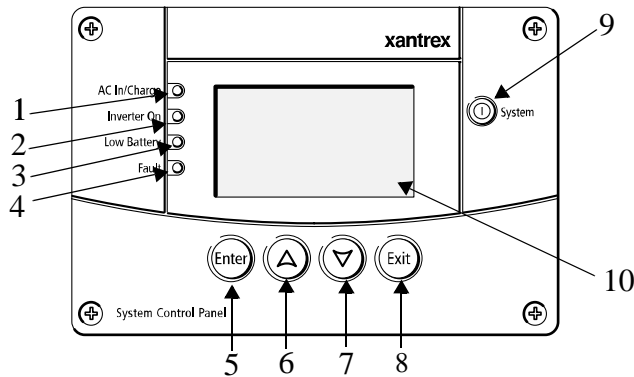

Figure 2-1 System Control Panel
- The System Control Panel has important features which you'll want to be familiar with, as shown in Figure 2-1.